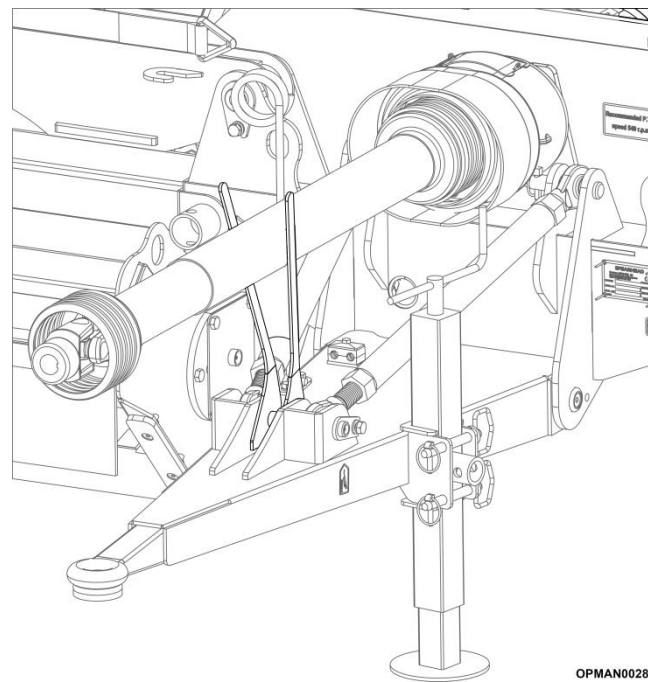

Figure 4.13 – PTO Support Bracket
- 4.5.1.7 If the shaft is not destined to be removed completely, utilise the machines PTO support bracket to rest the PTO shaft on; see Figure 4.13. This will ensure that the shaft doesn't get contaminated with dirt.